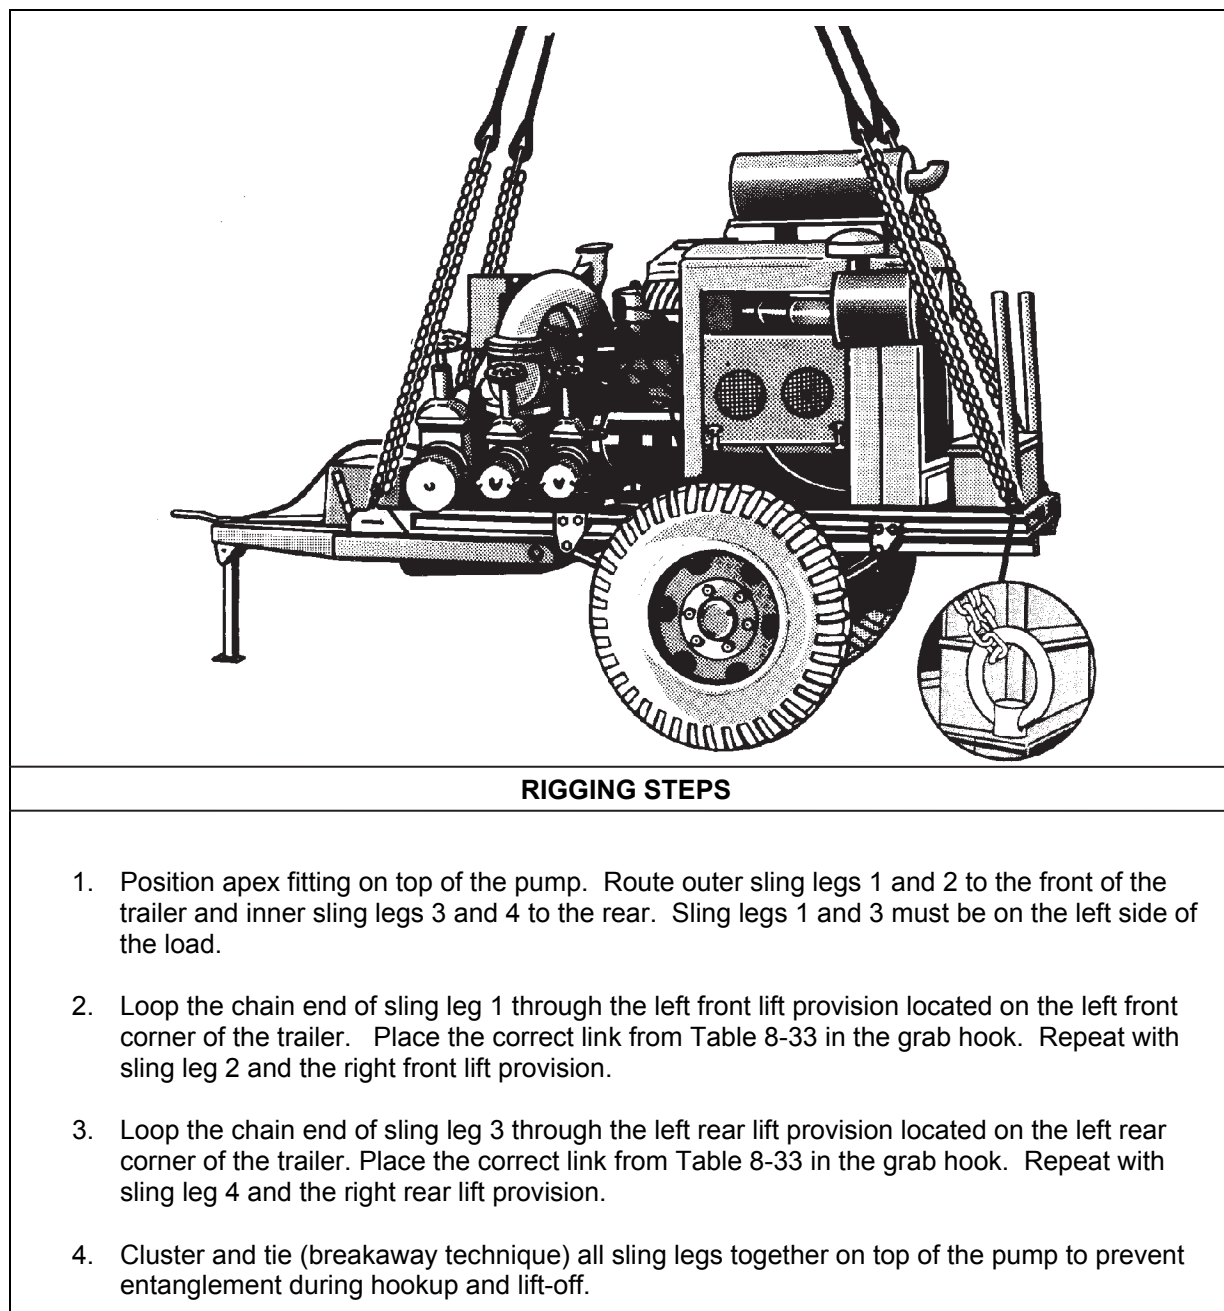

Figure 8-33. Fuel Dispensing System, Tactical Airfield
- **Rigging.** Rig the load according to the steps in Figure 8-33.